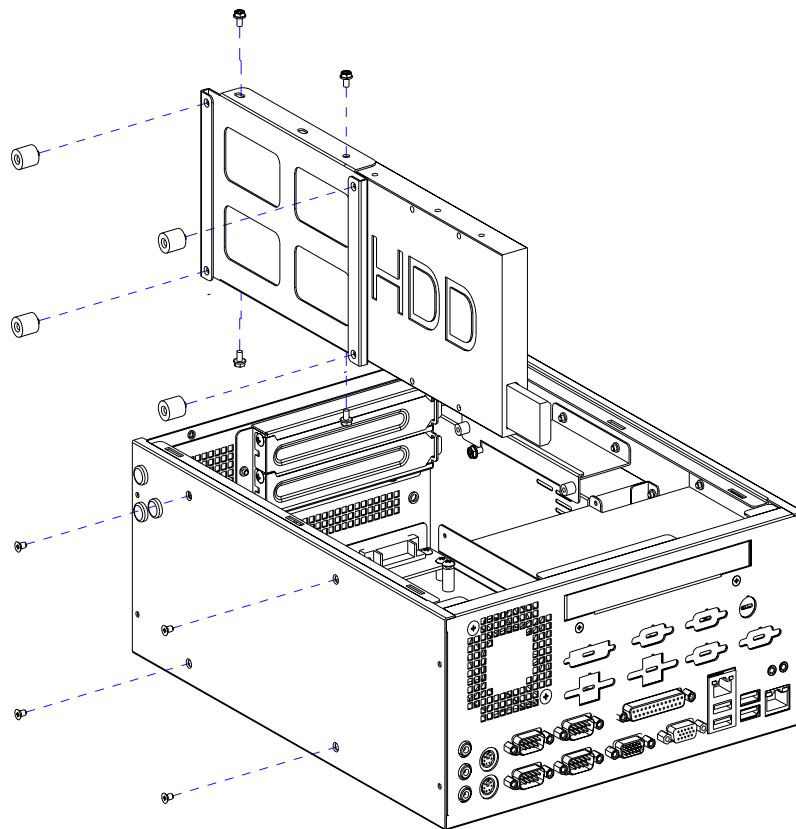

Figure 2.6 Installing a 3.5" HDD
1. To install the 3.5" internal HDD, remove the disk drive bracket by releasing the four screws (with the rubber cushions) from outside the chassis (see Figure 2.6).